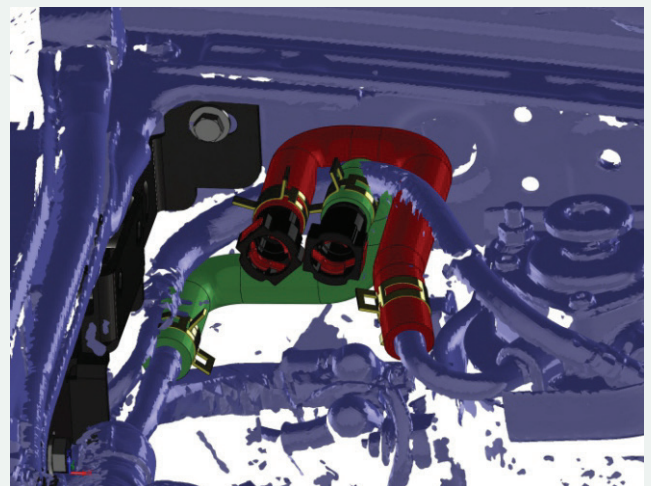

FIGURE 7B
- 6 Referring to FIG.7B install assembled fuel hoses MF9813A and MF9813B as shown. MF9813A connects to "from fuel tank" metal pipe. MF9813B connects to OEM fuel filter housing inlet metal pipe.